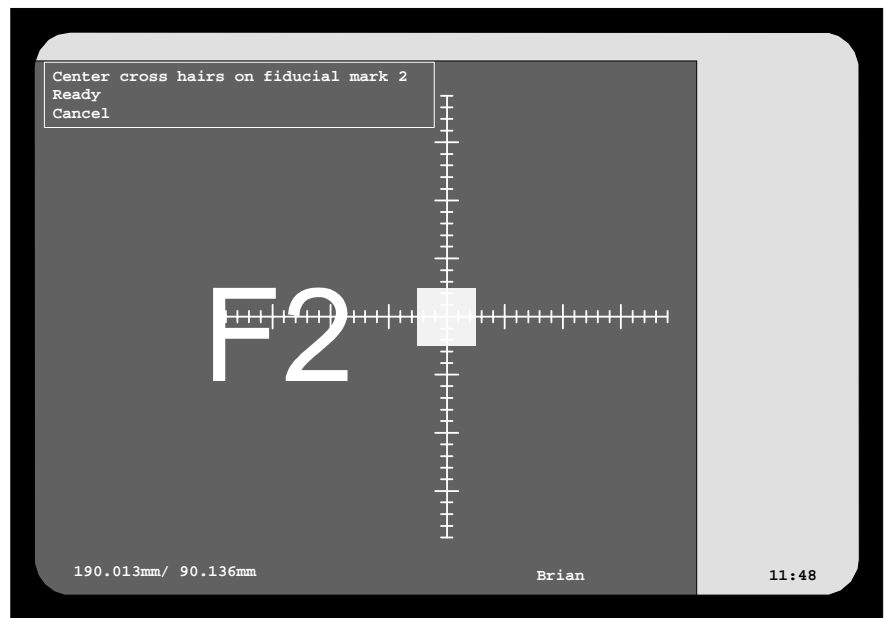

Figure 3-17. Centering fiducial mark F2
- Enter the coordinates of fiducial mark 2, see page 3-16. Center fiducial mark F2 as shown in Figure 3-17.